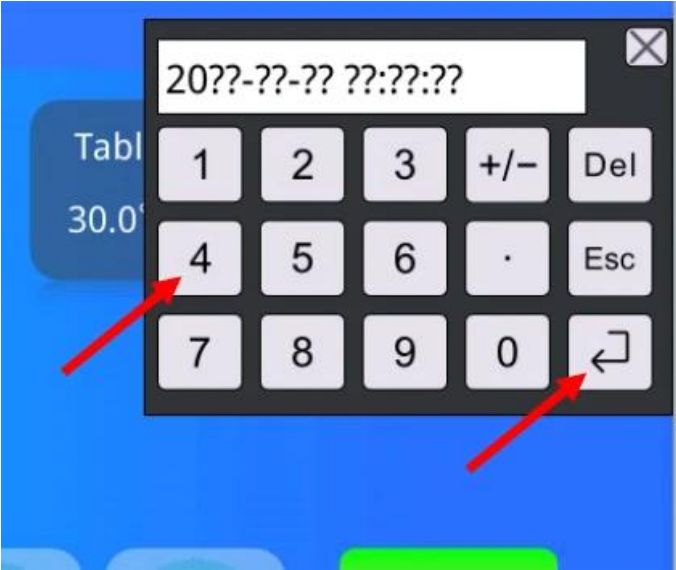

Figure 5
3. Setting of 3 times: Press and hold the time display area for 3 seconds to set the time. Enter the year, month, day, hour, minute, and second in sequence, and press Enter to complete. The display interface is shown in Figure 5